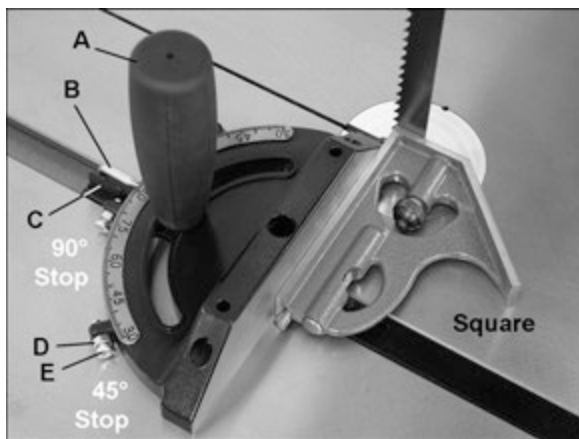

Figure 32
1. Place a square against miter gauge face, and against flat of blade, as shown in Figure 32. (Place square against flat of blade, not against
The 45° stops can be checked in similar fashion, using an angle gauge similar to that shown in Figure 32.
1. Place a square against miter gauge face, and against flat of blade, as shown in Figure 32. (Place square against flat of blade, not against the teeth which are set wider than the blade body). A wide blade is preferred for this procedure.
#### Adjusting Miter Gauge Angle for Operations (model PM1500, refer to Figure 32):